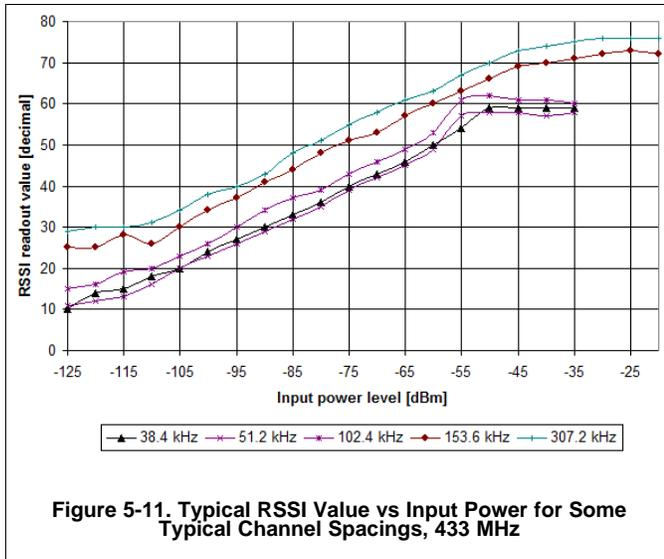
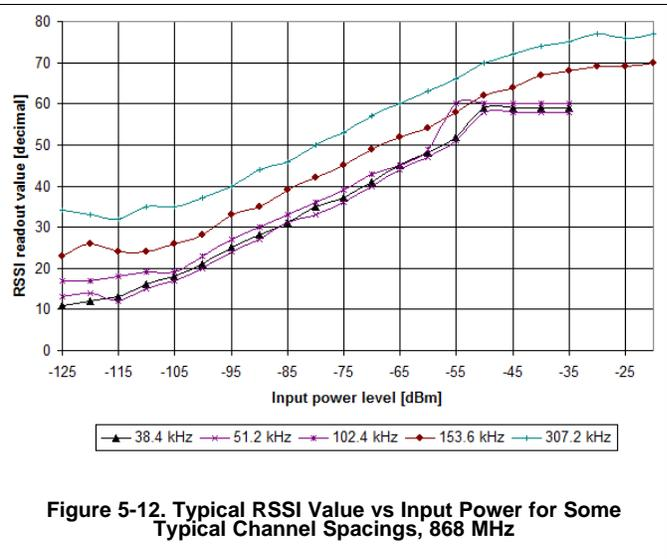

Figure 5-11. Typical RSSI Value vs Input Power for Some Typical Channel Spacings, 433 MHz
Figure 5-12. Typical RSSI Value vs Input Power for Some Typical Channel Spacings, 868 MHz
The RSSI_Offset depends on the channel filter bandwidth used due to different VGA settings. Figure 5-11 and Figure 5-12 show typical plots of RSSI reading as a function of input power for different channel spacings. See Section 5.9.5 for a list of channel filter bandwidths corresponding to the various channel spacings. Refer to *AN030 CC1020/1021 Received Signal Strength Indicator (SWRA062)* for further details.
The method shown in Equation 21 can be used to calculate the power (P) in dBm from the RSSI readout values in Figure 5-11 and Figure 5-12.
RSSI_ref is the RSSI readout value taken from Figure 5-11 or Figure 5-12 for an input power level of P_ref.
The analog filter has a finite dynamic range and is the reason why the RSSI reading is saturated at lower channel spacings. Higher channel spacing is typically used for high frequency deviation and data rates. The analog filter bandwidth is about 160 kHz and is bypassed for high frequency deviation and data rates and is the reason why the RSSI reading is not saturated for 200 kHz and 500 kHz channel spacing in Figure 5-11 and Figure 5-12.